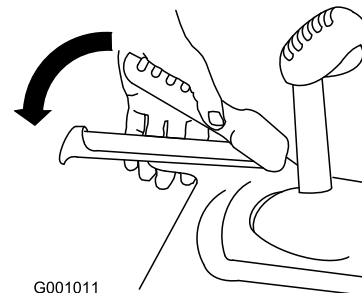

Figure 32
1. To engage the traction drive, squeeze the left hand (traction) lever to the hand-grip (Figure 32).